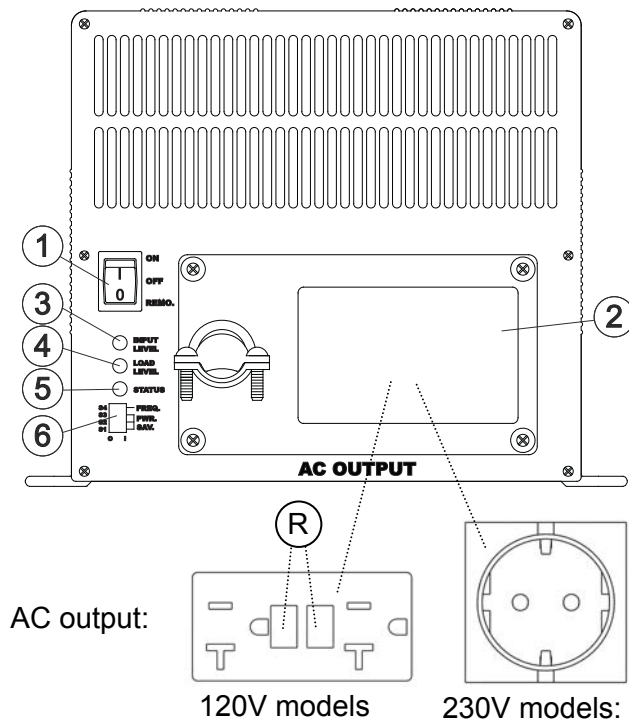

Figure 1: Front side
- The chassis ground terminal (see Figure 1, reference 7) must be connected to the central grounding point of the vehicle/ ship
- The neutral conductor (N) of the AC output of the Inverter must be connected to the safety ground (PE/GND) and a ground fault circuit-interrupter (GFCI) must be integrated in the wiring of the AC output
See Figure 1, ref. 6. Under normal circumstances there is no need to change the default settings of the DIP switches: the inverter is immediately ready for use.
- Before installing the Inverter make sure the main switch (figure 1, ref. 1) is set to the OFF position.
3. AC voltage: the load can be plugged into the AC-output (Figure 1, ref. 2) directly.
Move the main switch (Figure 1, ref. 1) to "ON". The Inverter will start a self-test indicated by two beeps from the buzzer and flashing LED indicators. This may last for approximate two seconds. Finally the buzzer will produce another beep and the Inverter will switch on, indicated by two green LED indicators.. Now the Inverter is ready to supply load connected to the AC-output.
Move the main switch (Figure 1, ref. 1) to the "OFF" position. Note that switching off the Inverter does not break the connection to the batteries!
The Inverter can be operated on a remote location by means of an optional remote switch. Move the main switch (Figure 1, ref. 1) to the "REMOTE" position. When the remote contact is closed, the Inverter is switched on.
In case of a ground fault, the Ground-Fault Circuit Interrupter (GFCI) trips and cuts off the AC output. To switch on the AC output again, push the reset button (Figure 1, ref. R)
See Figure 1. The operation of the inverter is made visible by means of LED indicators (3), (4) and (5).